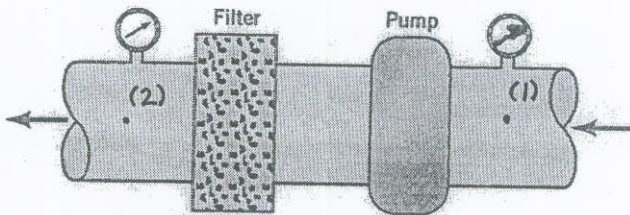

FIGURE P8.94
8.94 When the pump shown in Fig. P8.94 adds 0.2 horsepower to the flowing water, the pressures indicated by the two gages are equal. Determine the flowrate.